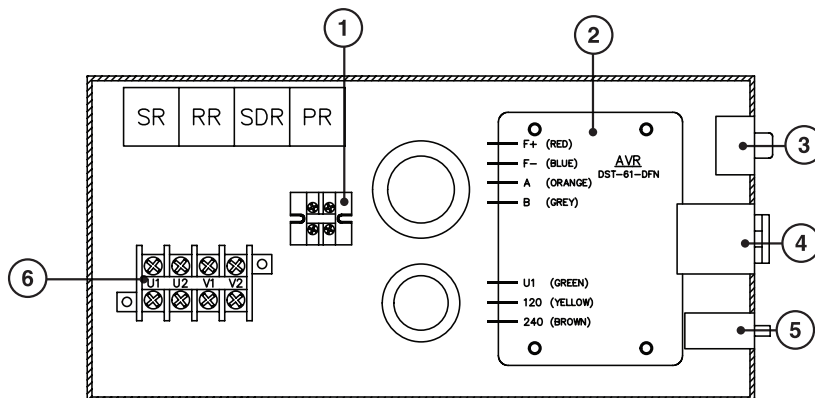

Figure 25: Control Box Components.
3. Generator excitation is provided by residual magnetism and electrical output voltage is controlled by the automatic voltage regulator (AVR) located in the control box (Figure 25, Item 2).
CONTROL BOX (Figure 25)